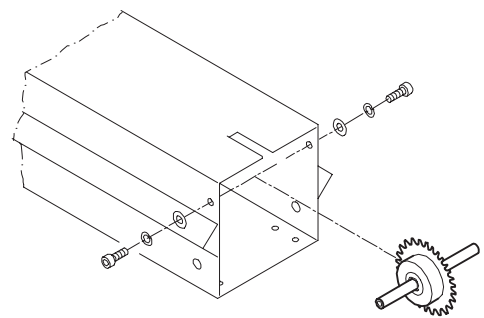

Fig. 2
3. Set up the Pinion Chain in the Column group (Fig. 2).